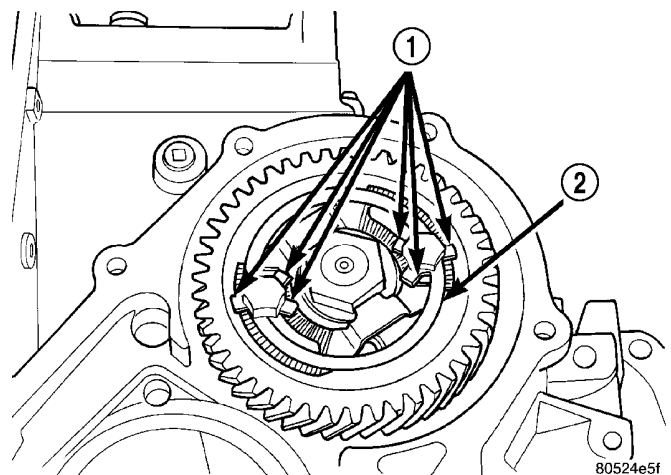

Fig. 120 Bend Strap Tabs Flat
- 2 - RETAINING BOLTS (2)
(1) Using a punch, bend tabs on strap flat against output gear (Fig. 120).